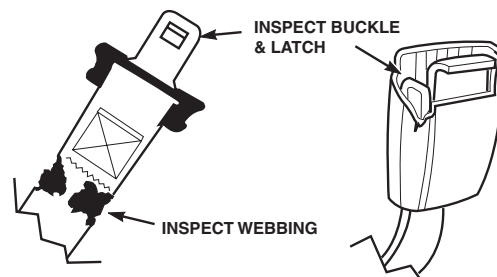

Figure 2-1. Seat Belt Inspection
1. Check the full length of the seat belt webbing for cuts, wear, fraying, dirt and stiffness. See Figure 2-1.
3. Check the buckle and latch for proper operation and determine if the latch plate is excessively worn, deformed, or if the buckle is damaged or cracked. See Figure 2-1.